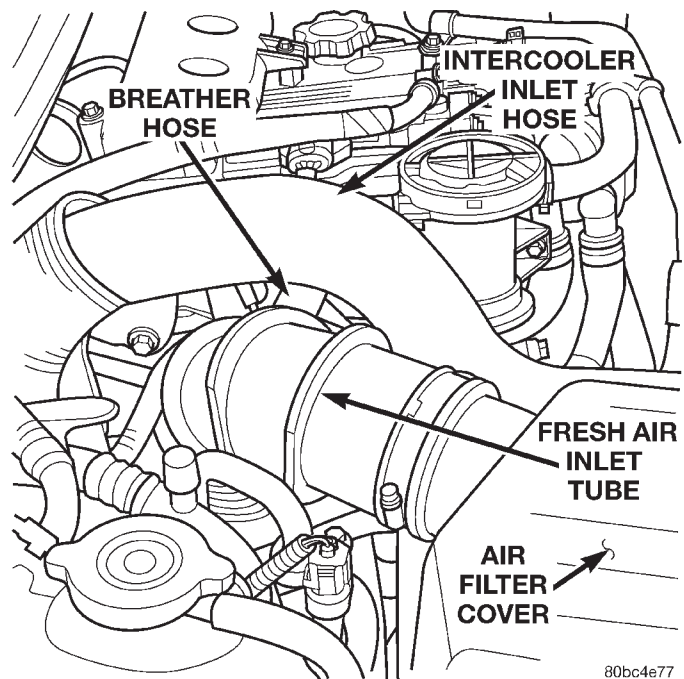

Fig. 18 Air Intake Hoses
- (1) Remove the intercooler inlet hose from the turbocharger (Fig. 18).
- (2) Disconnect the breather hose from the fresh air inlet tube (Fig. 18).
- (3) Unclip the air filter cover and remove the fresh air inlet tube from the turbocharger (Fig. 18). Remove the assembly from the vehicle.